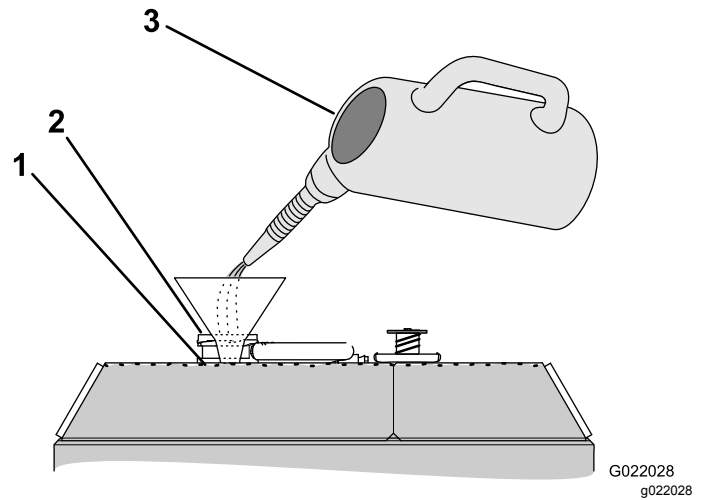

Figure 116
4. Fill the radiator with coolant until the fluid level is up to the bottom of the filler neck (Figure 116).